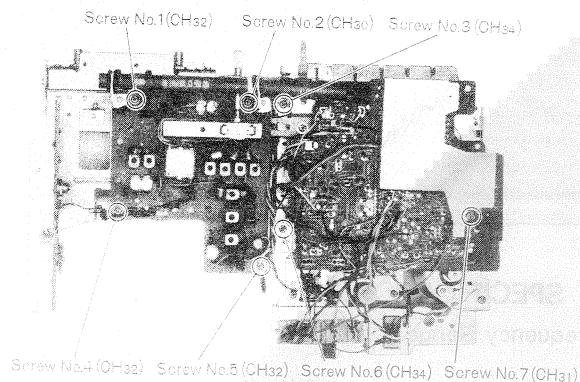

Fig. 3
3. Remove four (4) PC Board screws, nos. 1, 2, 4 & 5, as illustrated in fig. 3.